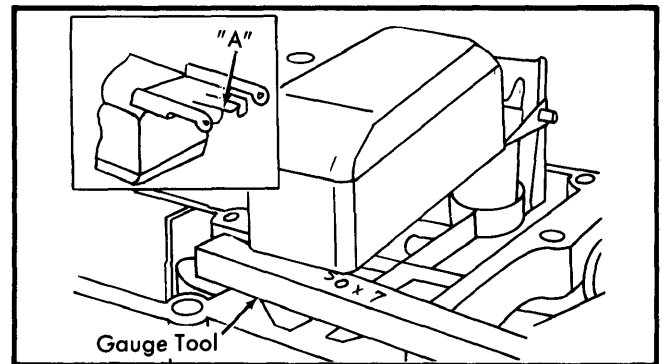

Fig. 2 Adjustment Points for Float Level
Allow float to hang down by its own weight. Adjust clearance between float tip and air horn to .276" (7 mm) by bending float lip (A). See Fig. 2.